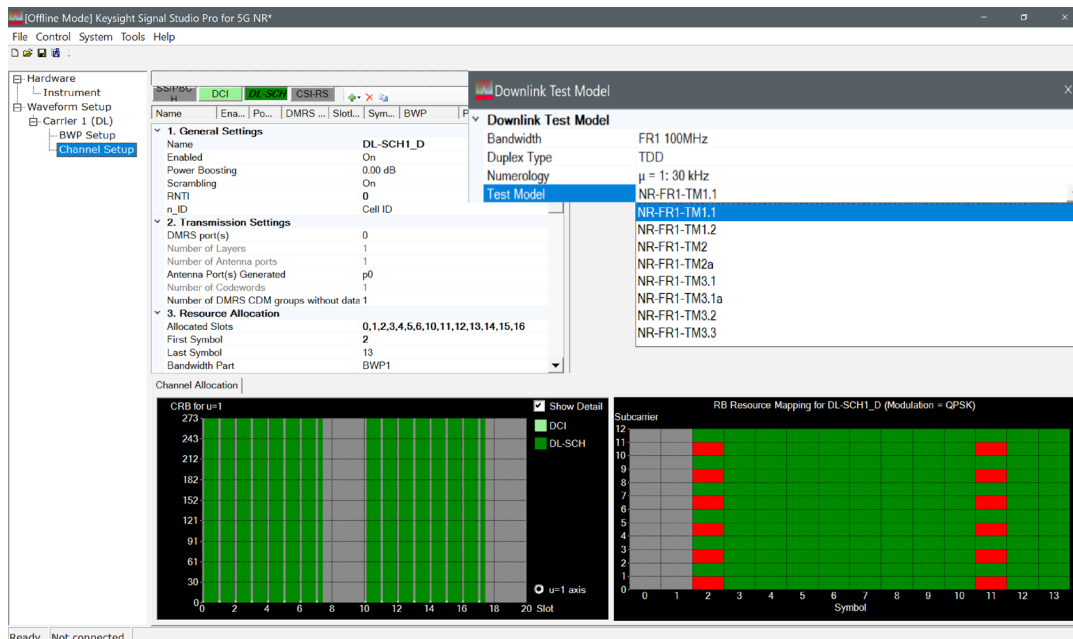

Figure 1: 5G NR TMs configuration with N7631C Signal Studio for 5G NR
Figure 1 shows the 5G NR TM1.1 for FR1. Graphical display for the entire Radio Frame is located at the bottom-left corner. The x-axis represents the slot based on current numerology and the y-axis represents the resource block (RB) value. The colors represent the different channel type used in the frame – green represents a downlink shared channel (DL-SCH) and light green represents downlink control information (DCI). The detailed RB mapping appears at the bottom-right corner, including the demodulation reference signal (DMRS) in red, and the physical downlink shared channel (PDSCH) in green. The pre-configured setups help you generate 3GPP 5G NR standard-compliant signals for testing gNB, UE transmitters, and receivers quickly and easily as shown in the upper-right.